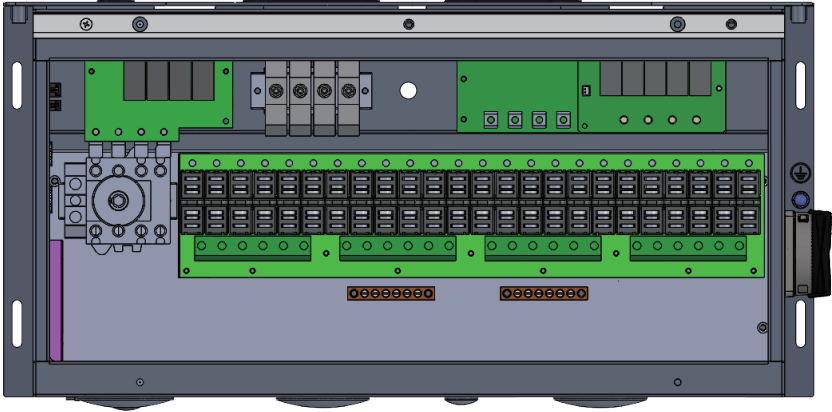
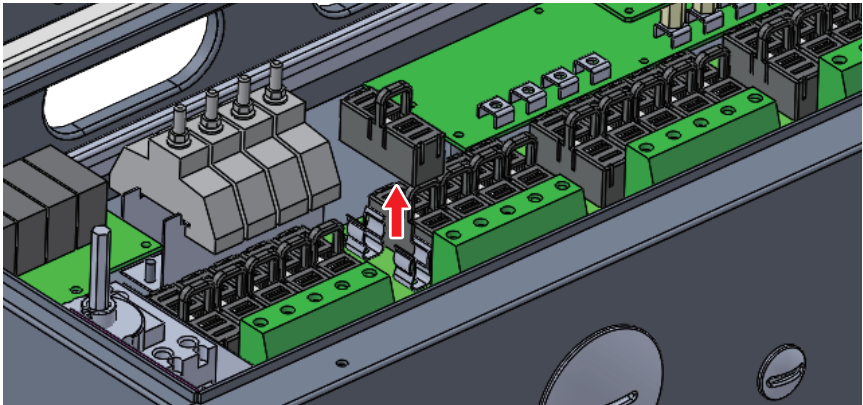

Figure 5-7: Fuse holder locations for 120/122 models
Figure 5-8: Accessing the individual fuses
The pull-out fuse holders allow safe removal of fuses which are inserted into a carrier. **Figure 5-7** shows the location of the combiner fuse holders, and **Figure 5-8** provides details to remove a fuse from the 120/122 WB; refer to **Figure 2-5** for additional information.
4. Based on step 1, check the corresponding fuse locations by pulling out the fuse holder (**Figure 5-8**) and checking continuity of the fuse.